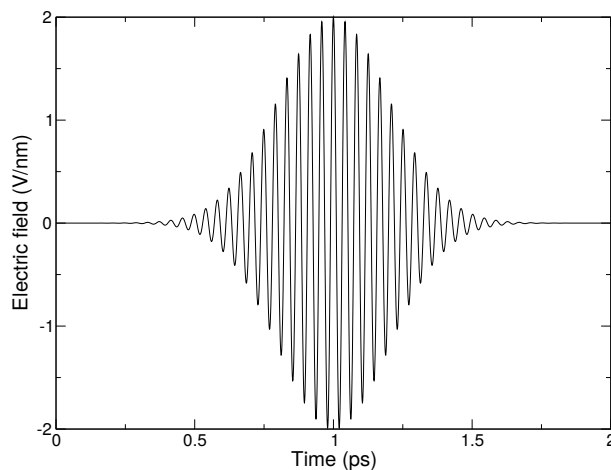

Fig. 5.45: A simulated laser pulse in GROMACS.
This simulated laser-pulse was applied to simulations of melting ice 146 (page 513). A pulsed electric field may look like Fig. 5.45. In the supporting information of that paper the impact of an applied electric field on a system under periodic boundary conditions is analyzed. It is described that the effective electric field under PBC is larger than the applied field, by a factor depending on the size of the box and the dielectric properties of molecules in the box. For a system with static dielectric properties this factor can be corrected for. But for a system where the dielectric varies over time, for example a membrane protein with a pore that opens and closes during the simulation, this way of applying an electric field is not useful. In such cases one can use the computational electrophysiology protocol described in the next section (sec. Computational Electrophysiology (page 459)).
yields an pulsed-oscillating electric field with $E_0 = 2$ V/nm, $\omega = 150/\text{ps}$ and $t_0 = 5$ ps and $\sigma = 1$ ps. Read more in ref. 146 (page 513). Note that the input file format is changed from the undocumented older version. A figure like Fig. 5.45 may be produced by passing the `-field` option to `gmx mdrun` (page 111).